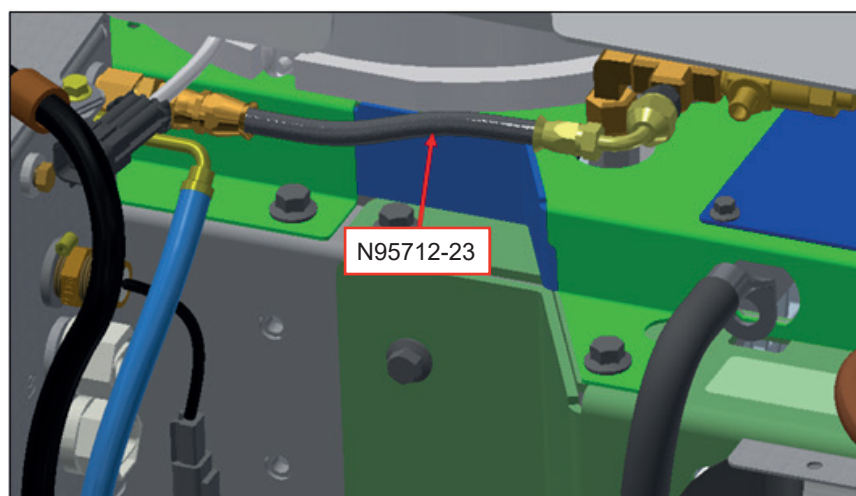

Figure 6 - Installation of Vent Hose
- 1.10. Re-install removed hose between radiator and surge tank. If a new hose is required, see level 2 BOM (N95712-23) (see figure 6).